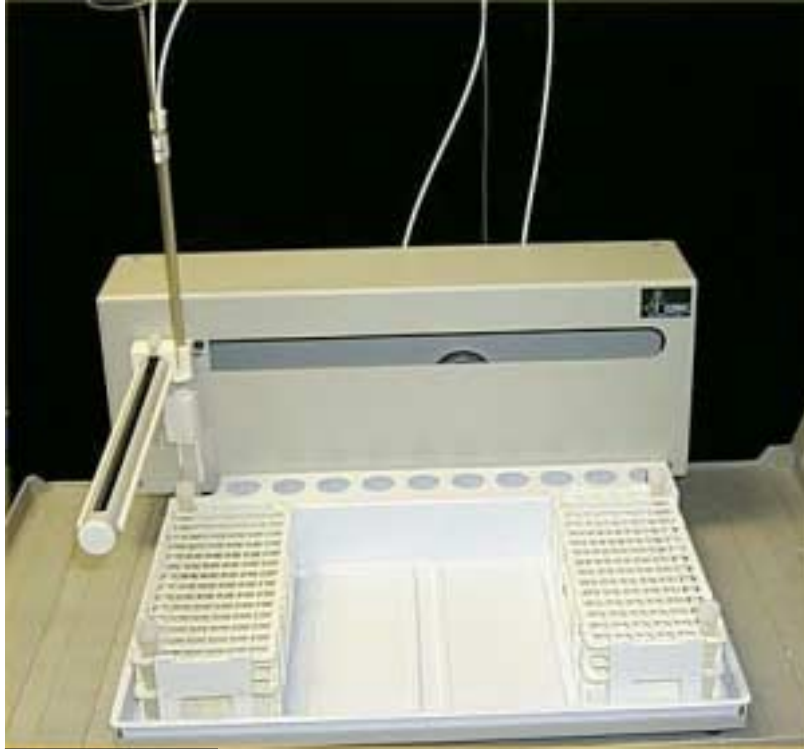

Figure 1-1
9. Ensure power to instrument is off. Make sure that you have a sample probe in the Z-drive, and racks on the right and left of the tray. As shown in figure 1-1. There is no need for racks in the 2 middle sections of the tray.